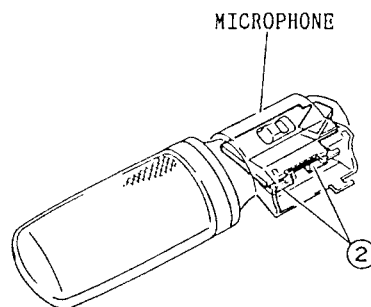

Fig. 2-7
2. Disconnect two (2) connectors (CN001, CN002). (See Fig. 2-7)